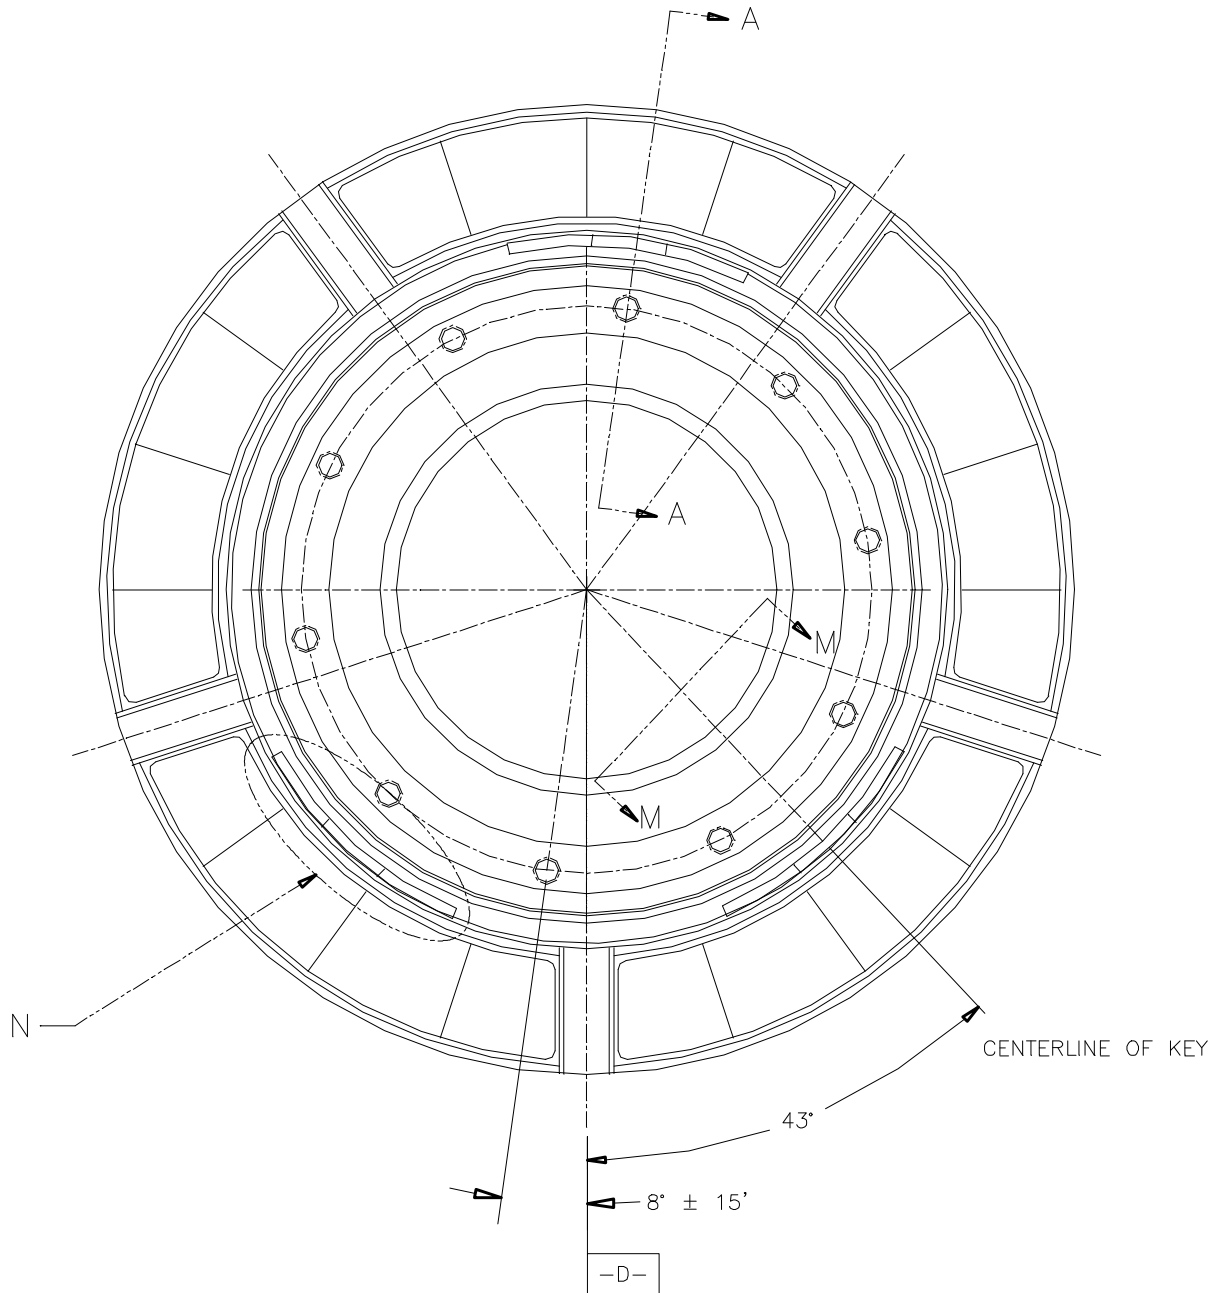

FIGURE 3
9.0 Re-Installation of Diaphragm Subassembly: Install a new or serviceable diaphragm subassembly and lock it into place by GTA welding the locking keys to the ring of the diaphragm assembly. If the surface to be welded on has been aluminide coated, then remove coating via localized blending. Blending to a depth of .005 will be sufficient to remove the coating. Orientation of the diaphragm to the vane ring is presented in Figure 3.